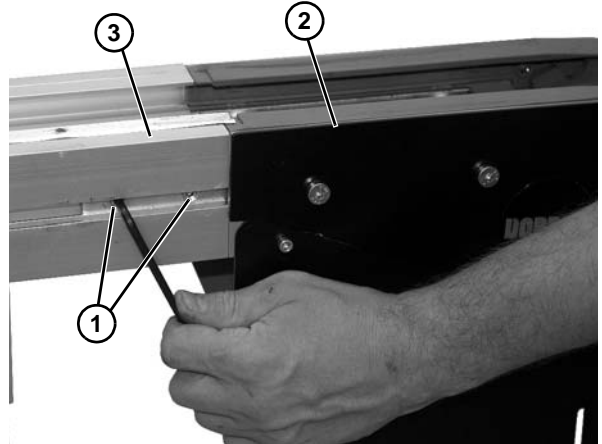

Figure 48
2. Loosen two socket head set screws (**Figure 48, item 1**) on each side of conveyor, and remove the drive tail assembly (**Figure 48, item 2**) from the conveyor frame (**Figure 48, item 3**).